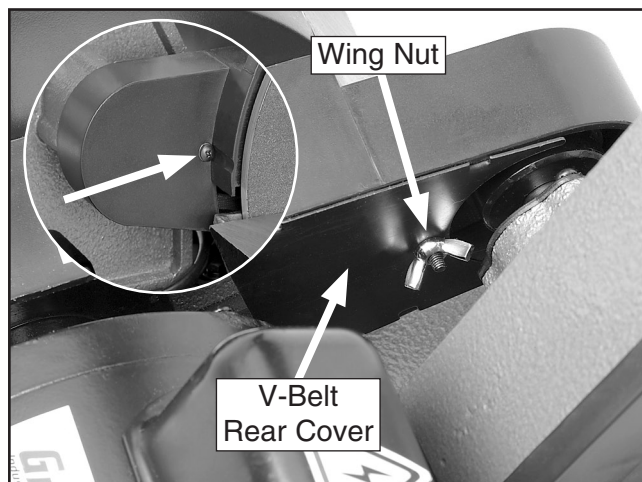

Figure 12. V-belt rear cover installed (inset shows front location of screw).
8. Position the V-belt rear cover, as shown in **Figure 12**, and secure it in place with the M4-.7 x 40 Phillips head screw and wingnut.